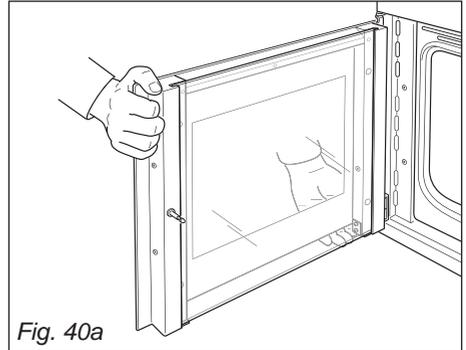
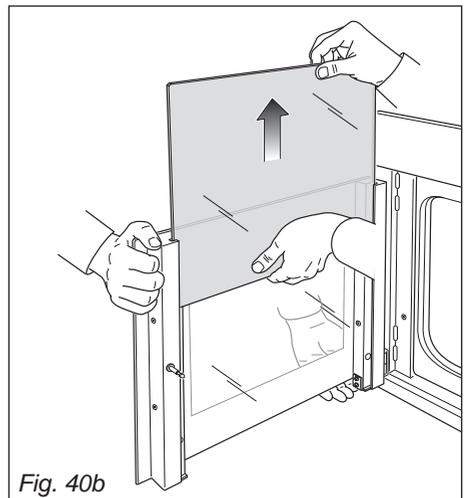

Fig. 40a
Fig. 40b
When removing and replacing the inner glass, the door should be held still by one person (fig. 40a). A second person should gently remove the glass (fig. 40b).
- Gently pull out the inner pane of glass (fig. 40b). Forcible removal of the door glass may lead to damage of the door hinges.